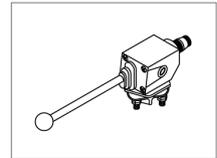

Fig 1.2 Manual Lowering valve
Fig 1.2 shows the manual lowering valve that fits in place of the solenoid operated version (item 3)